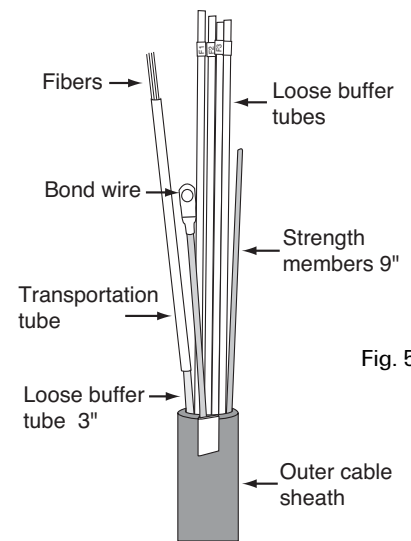

Fig. 5
7. Carefully ring cut and remove all but three inches of each buffer tube. Clean the remaining buffer tubes, exposed fibers, strength member, and 6" of the cable sheath with a rag and company-approved cleaning solution. (Figure 5)